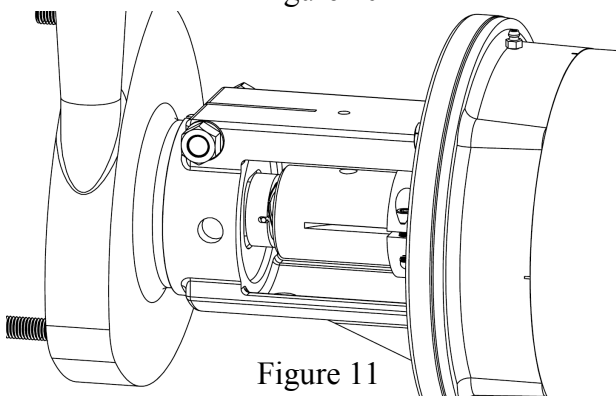

Figure 11
3. Set the slots in the rotating seal over the drive pins figure 11.